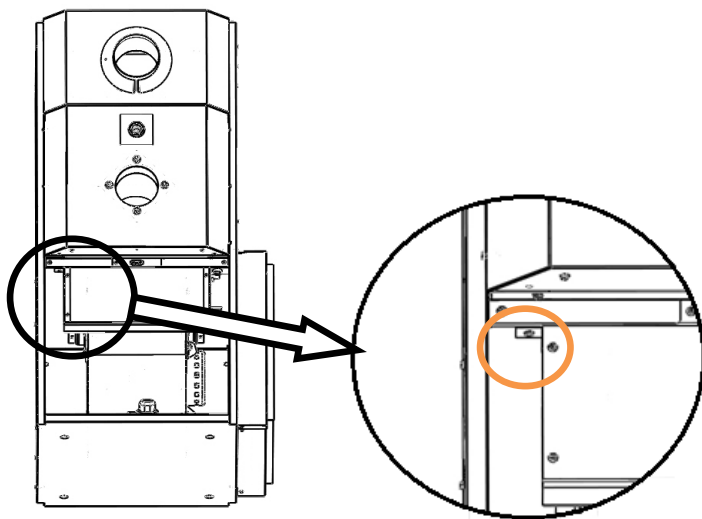

Figure 3
- 5) Remove the screw securing the blower side to the separating panel (Figure 3).